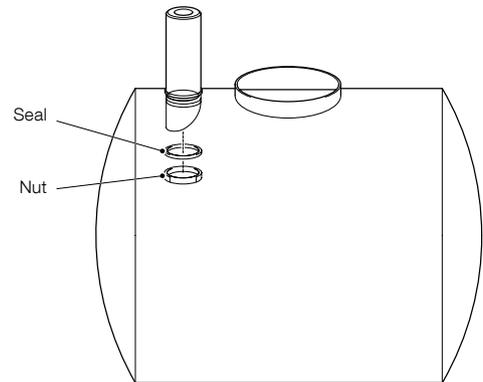

Fig. 2.6: Securing the mounting bracket to the tank using the nut
3. Referring to Fig. 2.6, fit a seal over the bottom of the bracket and fit the nut as shown. Tighten the nut to secure the bracket.